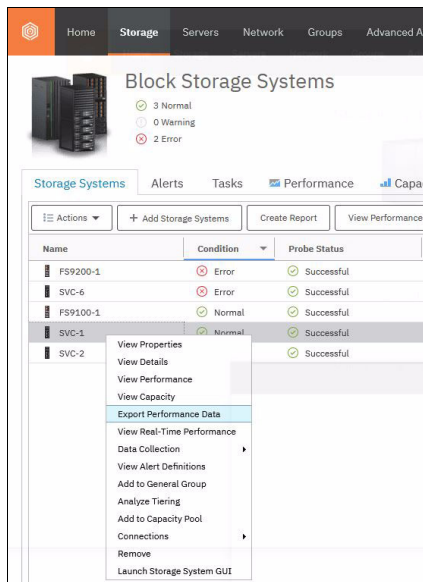

Figure 9-56 Spectrum Control - Export Performance Data
- 3. Right-click the storage resource, and then, click **Export Performance Data** (see Figure 9-56).